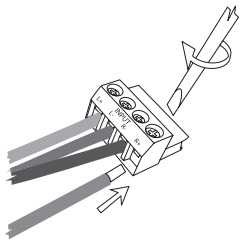

Figure 4
- 2.) Insert each wire from the amplifier into the proper L+, L-, R+ or R- **input** terminal and use a small screwdriver to tighten each screw; see **Figure 4**. **Make sure to observe proper polarity for each connection.**
- 3.) Insert each wire from the speakers into the proper L+, L-, R+ or R- **output** terminal and use a small screwdriver to tighten each screw; see **Figure 4**. **Make sure to observe proper polarity for each connection.**